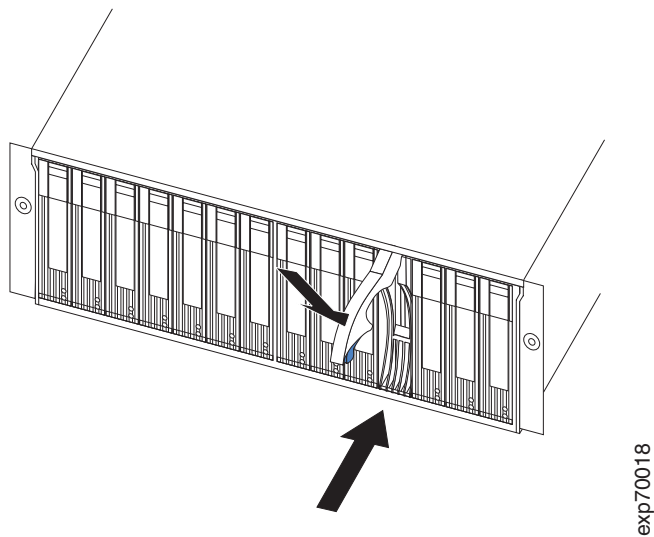

Figure 54. Closing the hot-swap hard disk drive tray handle
- d. Push the tray handle down into the closed (latched) position, as shown in Figure 54.
- b. Push the tray handle down into the closed (latched) position, as shown in Figure 54 on page 69.